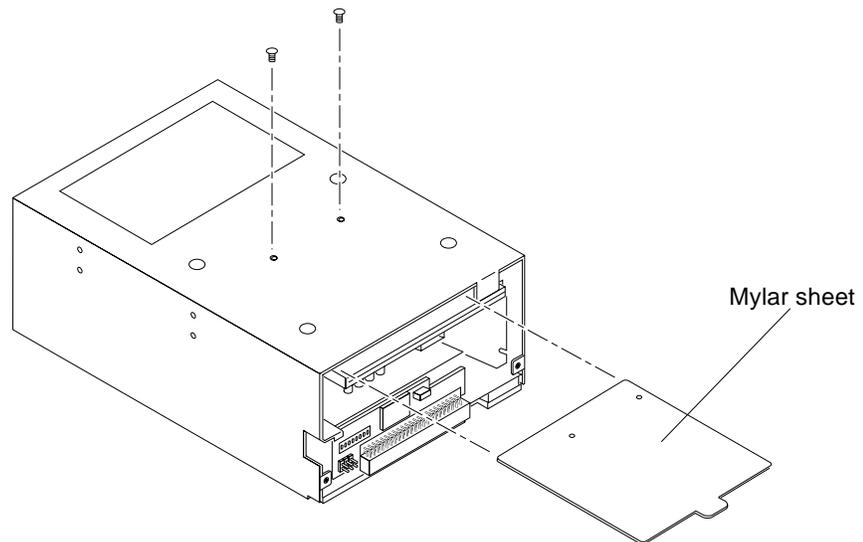

Figure 1 Removing the Mylar Sheet from the Auto-Loader
- 1. Turn the auto-loader upside down and remove the two screws that secure the mylar sheet to the auto-loader. See Figure 1.**
2. **Grasp the clear plastic tab at the rear of the auto-loader and pull the mylar sheet out of the unit. See Figure 1.**